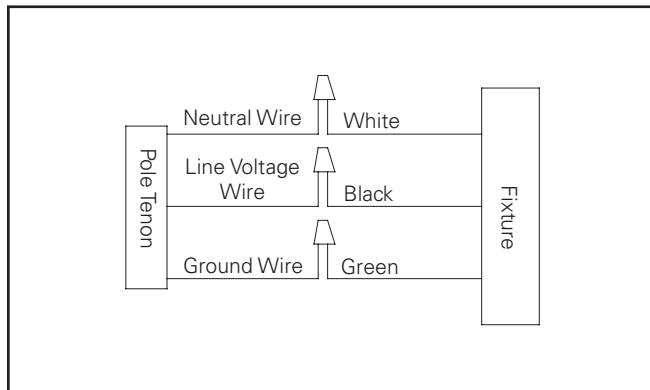

Figure 1.
2. Connect supply wires to appropriate luminaire leads. (Figure 1.)